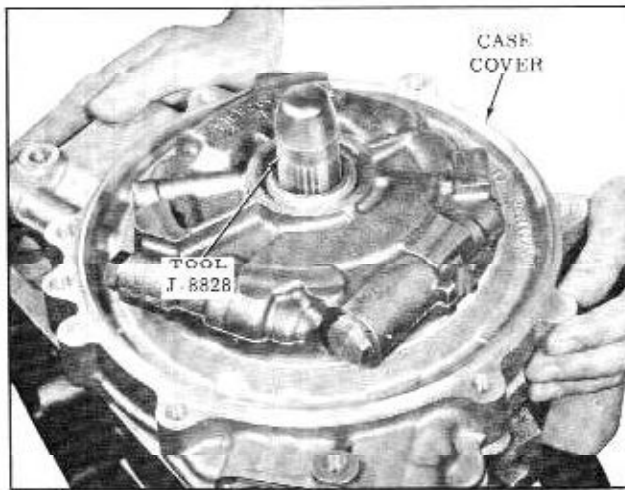

Fig. 3-113 Installing Case Cover
47. Install the case cover and pump assembly while aligning the attaching bolt holes. Install Tool J-8828 on shaft before installing case cover if seal was not removed. (Fig. 3-113)